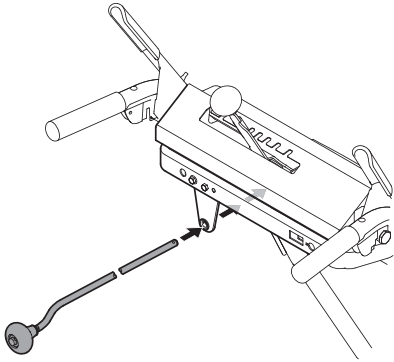

Figure 2-24
- 4. Insert chute control rod into the support bracket on rear of the dash panel. See Figure 2-24.